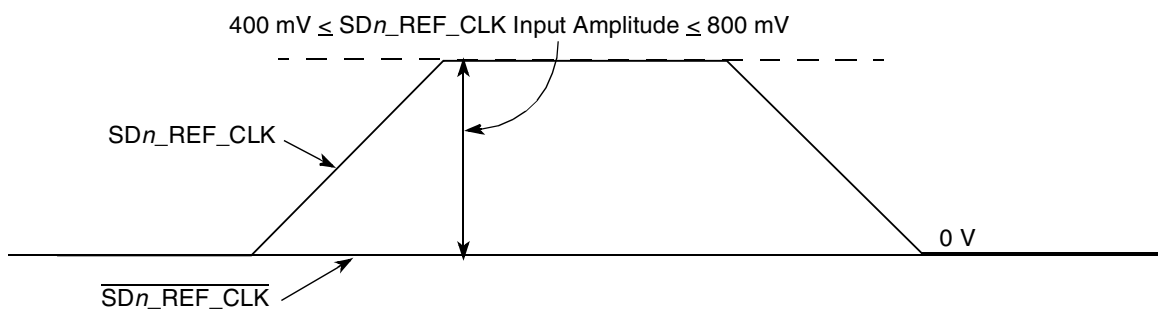

Figure 33. Single-Ended Reference Clock Input DC Requirements
- The $\overline{SDn_REF_CLK}$ input average voltage must be between 200 and 400 mV. **Figure 33** shows the SerDes reference clock input requirement for single-ended signaling mode.